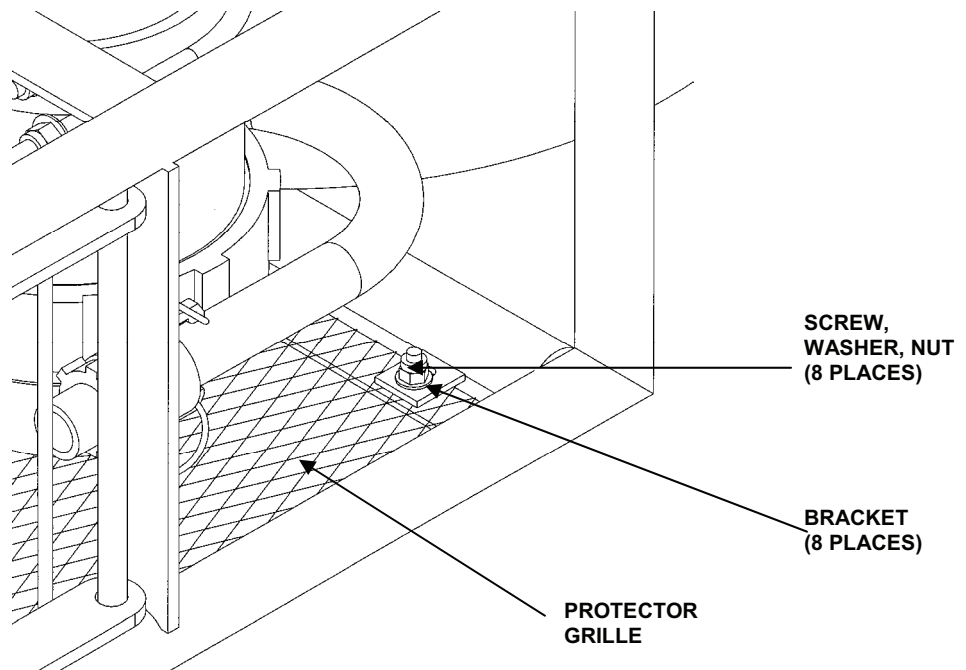

Figure 3. Protective Grille Attachment.
2. Remove eight machine screws, flat washers, and hex lock nuts from eight brackets on base of UF module. See Figure 3.
3. Install eight machine screws, flat washers, and hex nuts through protective grille and brackets. See Figure 3.